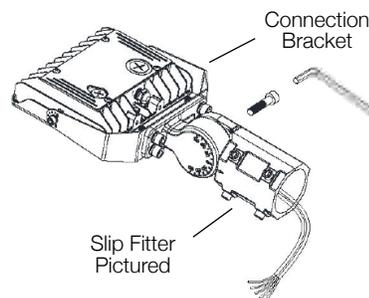

Fig. 2.2
3. Attach the desired mount (slip fitter, multi mount, or pole mount) to the connection bracket using the bolt provided (Fig 2.2).